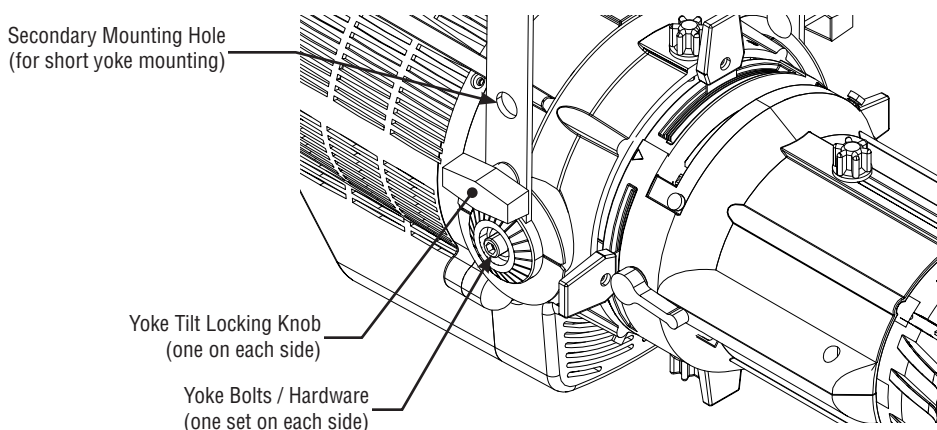

Figure 13: Yoke Hardware
- Step 3. As shown in **Figure 13**, using a 1/4-inch hex head wrench (by others), remove yoke bolts, cup washers, and pivot covers. Please note order of hardware for reinstallation. Set hardware aside.